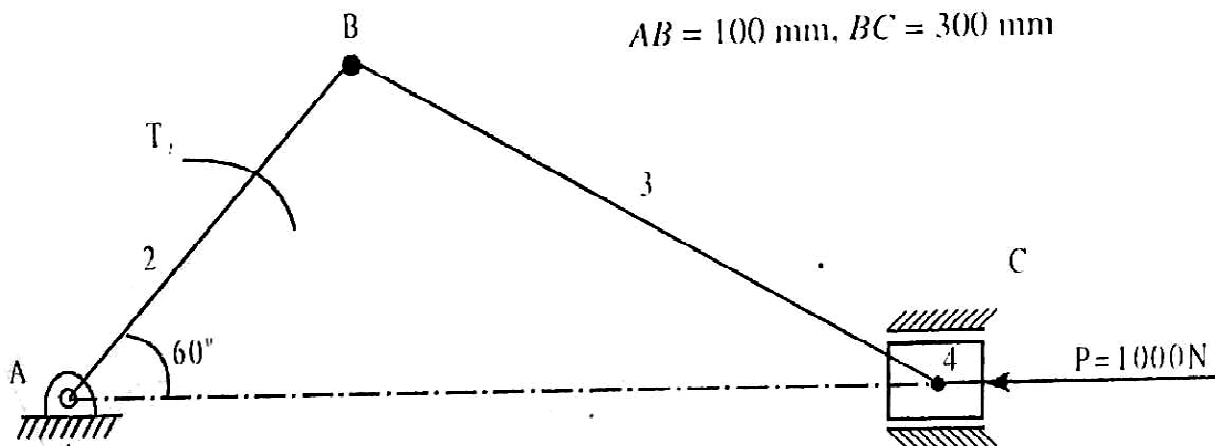

Fig. 5a
- 5 a. A slider crank mechanism is shown in Fig. 5a. The force applied to the piston is 1000 N when the crank is at 60° from IDC. Calculate the driving torque T. 14 L2 CO4 PO2